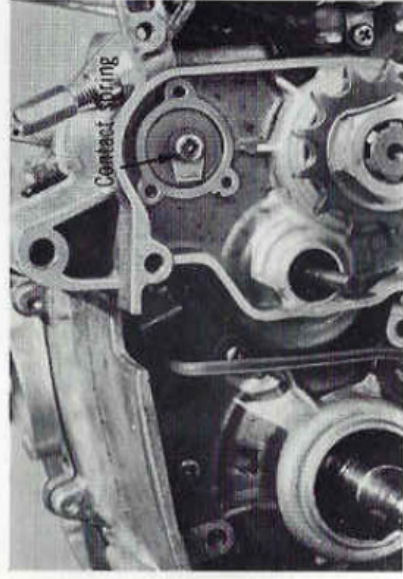

Fig. 8-2-6
6. Remove the **newtral switch body** by loosening 3 cross head screws and then remove the **newtral switch contact spring** by loosening a cross head screw. (Fig. 8-2-6)